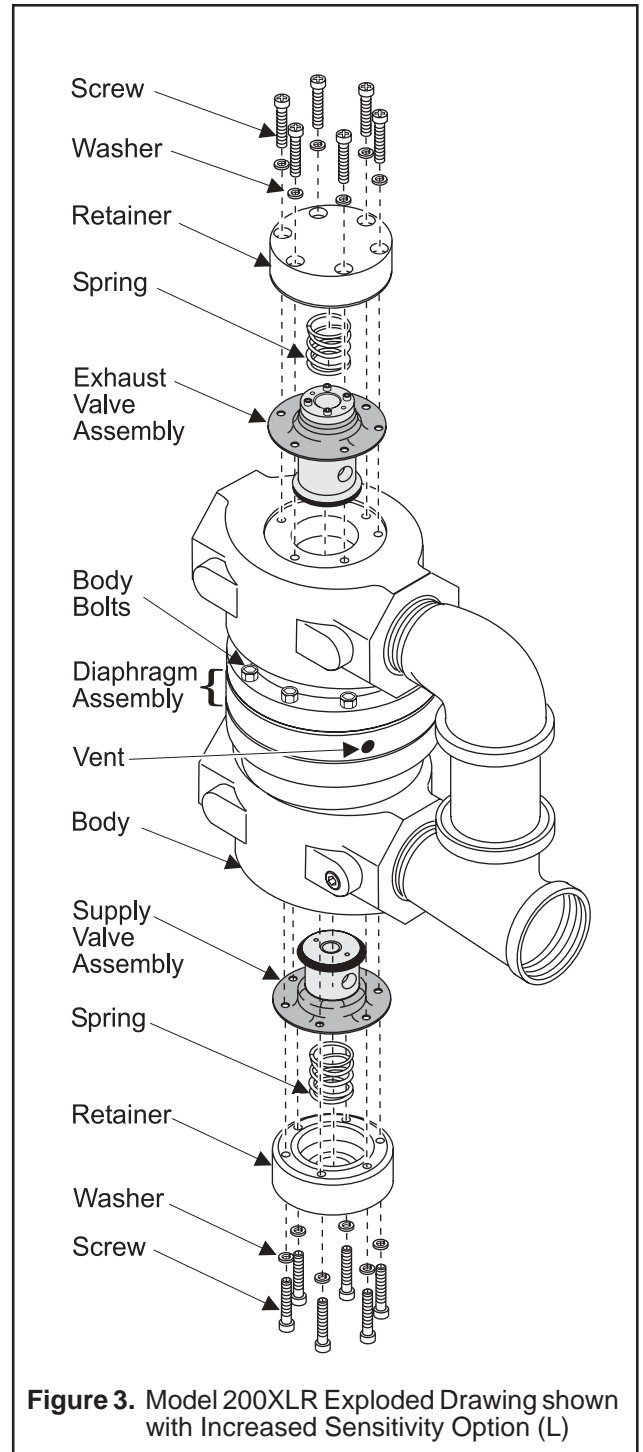

Figure 3. Model 200XLR Exploded Drawing shown with Increased Sensitivity Option (L)
2. Remove the six Screws from the top and bottom of the unit. For more information, see Figure 3.
3. Remove the two Valve Assemblies. For more information, see Figure 3.
5. Replace the assemblies carefully. Ensure that the small vents in the Spacer Ring are clear. For more information, see Figure 3.